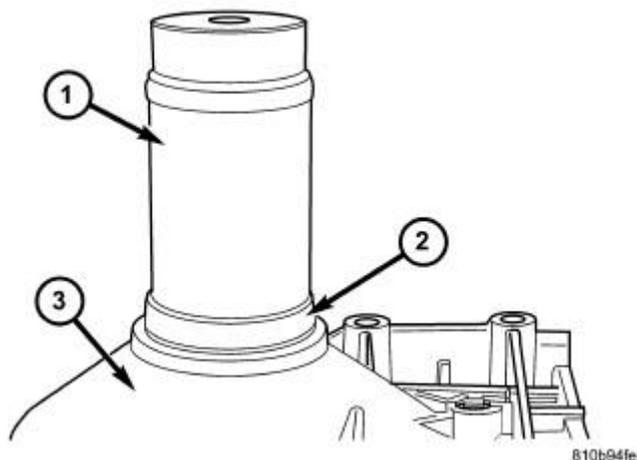

Fig. 100: Installing Output Shaft Bearing
1. Using Bearing Installer (special tool #9287, Installer, Bearing) (1), install the output shaft bearing (2) into the transmission housing (3). Refer to **Fig. 100**. The closed side of the plastic cage must point towards the parking lock gear.